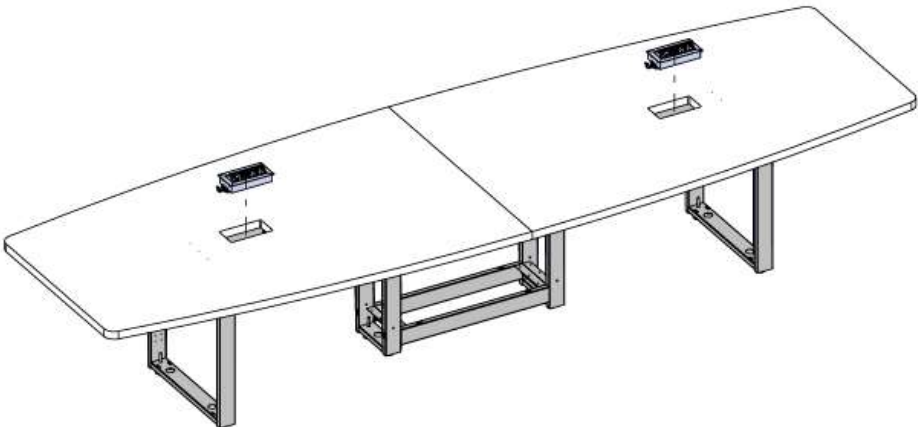

Figure 6
- 9. Set the power grommets into the hole of the table top and lay the electrical wires and communication cables in the bridge and end gables, (Figure 6).